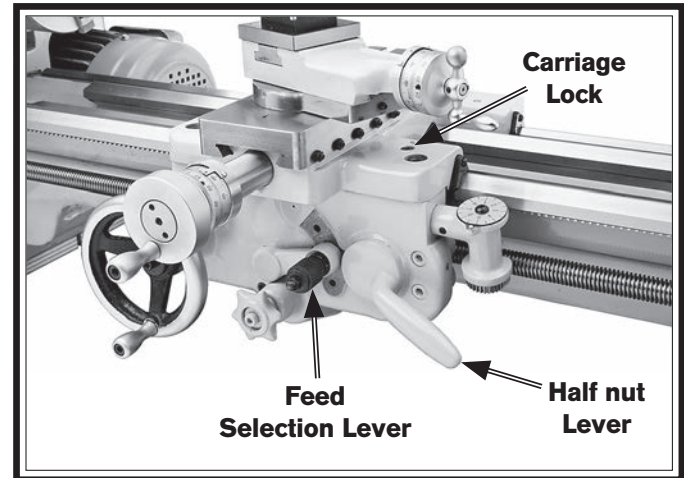

Figure 9. Carriage controls.
- a. Loosen the carriage lock (see **Figure 9**).